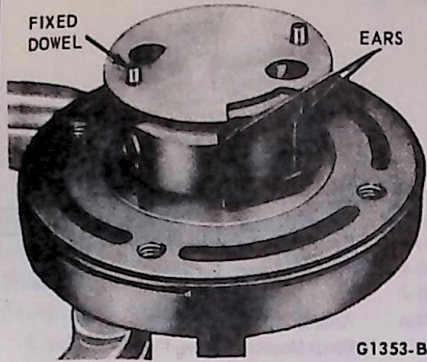

FIG. 17 Retainer End Plate Installation
12. Install the retainer end plate (unless integral with the pressure plate) so the slot on the end plate OD matches the corresponding notches of the upper pressure plate and cam (Fig. 17).